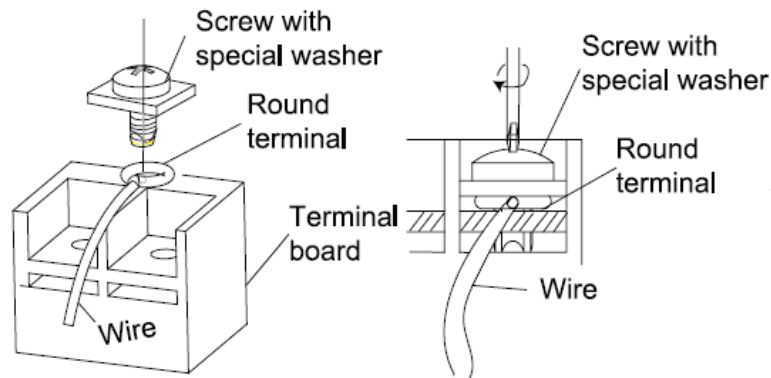

Fig. 25
- (2). For strand wiring (Fig. 25)
- 4) Position the round terminal wire, and replace and tighten the terminal screw with a screwdriver.(Fig. 25)